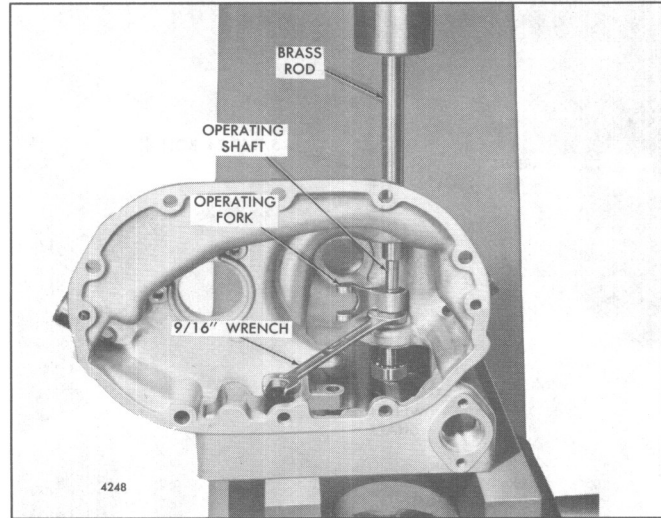

Fig. 16 – Removing Operating Fork Shaft and Lever Assembly from Governor Housing
- g. With the housing still supported on the bed of the press, place a 9/16" open end wrench under the operating fork (Fig. 16). Place a brass rod on the end of the shaft and press the fork off of the operating shaft. Remove the shaft, operating lever and bearing as an assembly from the housing.